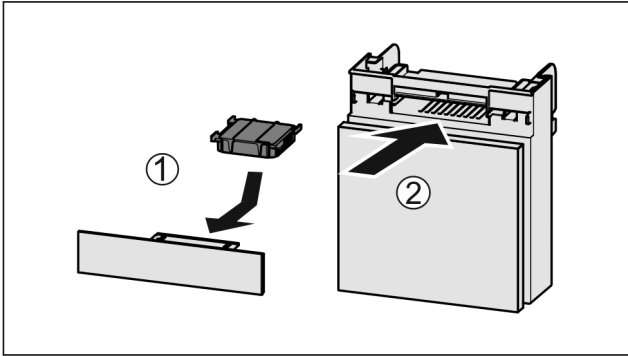

Fig. 169
- ▶ Insert the carbon filter as shown in the diagram Fig. 169 (1).
- ▶ Push the compartment in Fig. 169 (2).